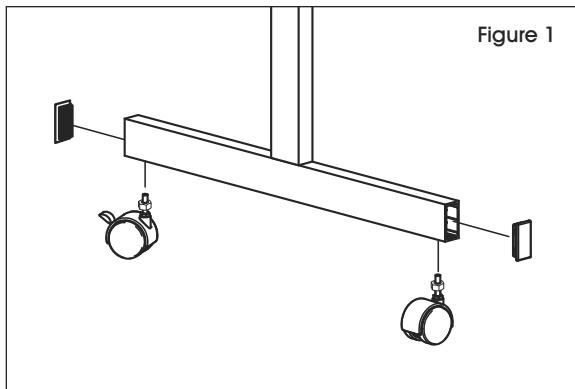

Figure 1
1. Screw one braking and one non-braking caster into each foot. Fully tighten the nuts that accompany each caster. Insert one plastic end cap to the ends of each foot. (See Figure 1)